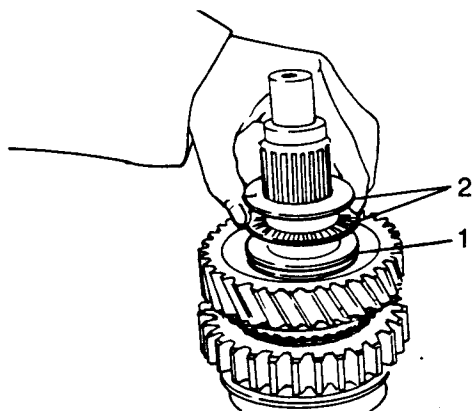

Fig H1.154
- (3) Refer to Fig H1.154. Fit thrust washer for the bearing (1) with the grooves towards 2nd speed gear.
- (4) Fit the axial bearing and the other thrust washer (2) with the oil grooves towards the front end of the shaft.